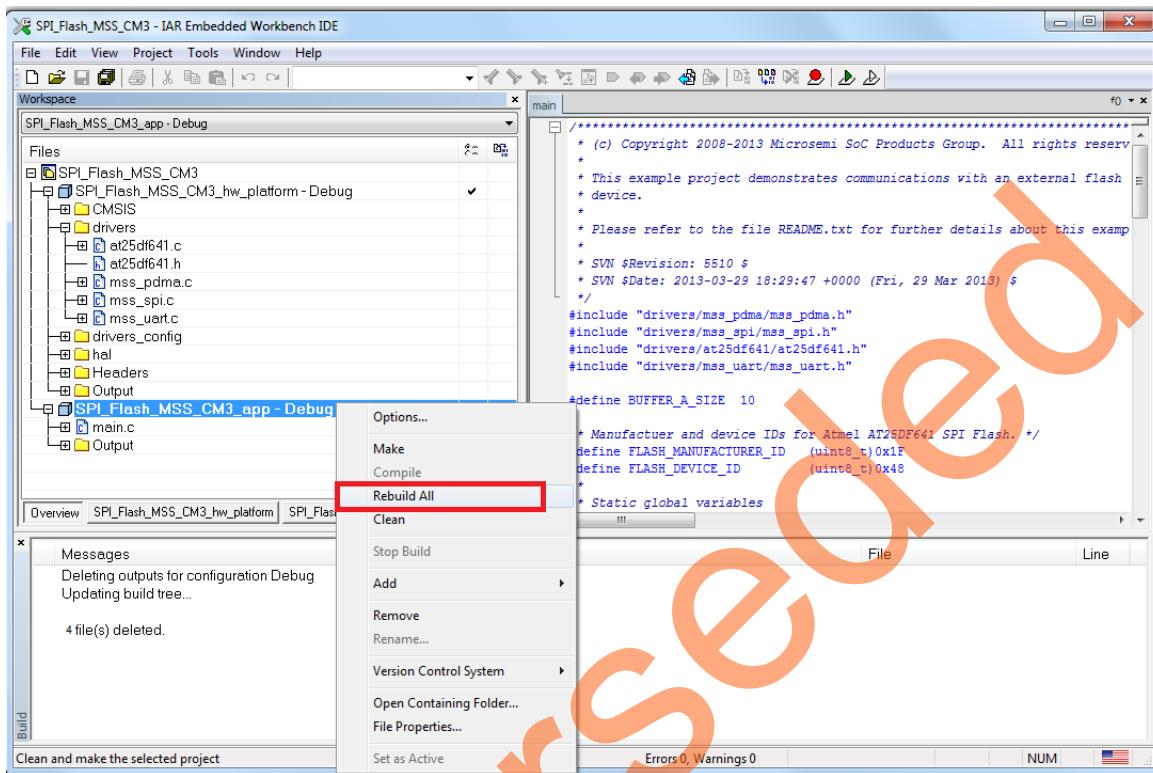

Figure 36 • IAR Workspace - Select Rebuild All
21. Right-click on the **SPI_Flash_MSS_CM3_app - Debug** project name and click **Rebuild All** as shown in Figure 36.